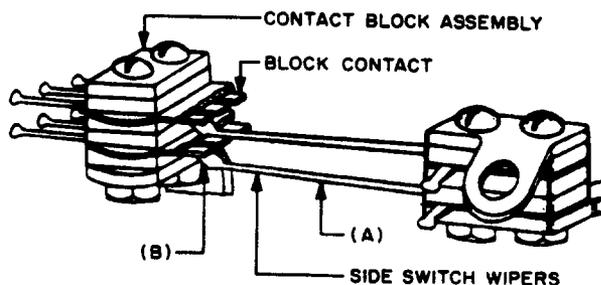

Fig. 2 - Alignment of Block Contacts
2.11 Wiper Spring Tension: Fig. 2 (A) — The wiper springs shall have enough tension so that when pressure is applied midway between the front and back of the wiper to cause it to move 1/16 inch, the spring will just leave its contact.
Fig. 2 (B) — When the side switch is in the second position and the private magnet is at normal, the wiper tips shall rest a little to the left of the center of the bank contacts. When the private magnet is energized, the wiper tips shall rest a little to the right of the center of the bank contacts.